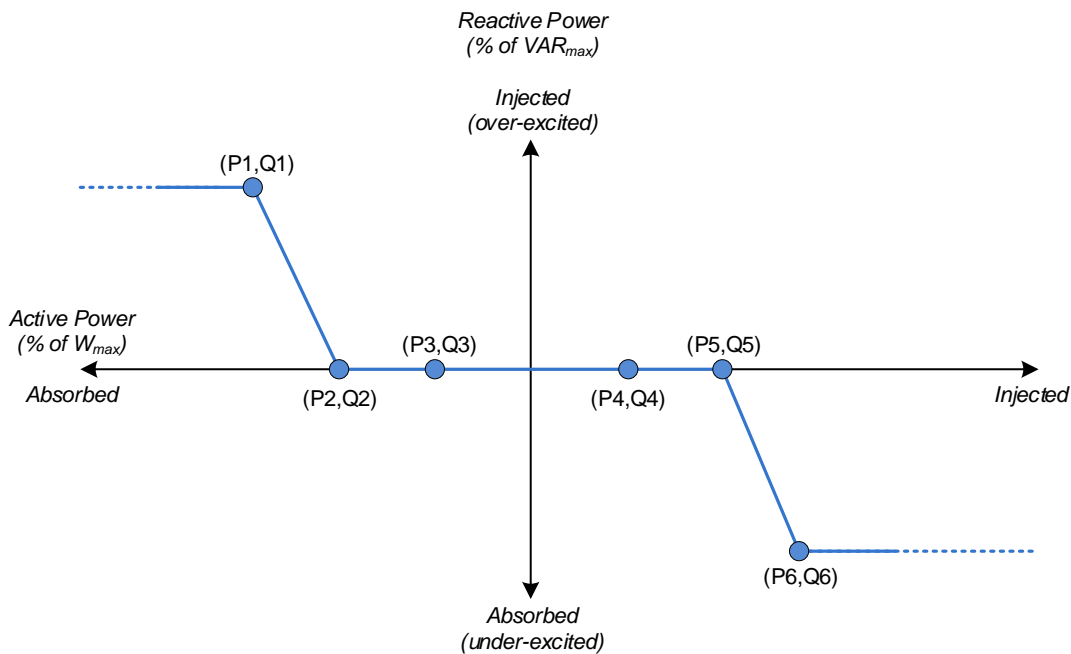

Figure 24 - Watt/VAR Configuration
Figure 24 illustrates a basic Watt-VAR curve. At the endpoints, to the left of the first active power point and to the right of the last active power point, the reactive power level remains constant (i.e. flat lines). The active power points (P) are defined as a percentage of the maximum active power ( $W_{max}$ , **REG 40266**). By default, the reactive power points (Q) are defined as a percentage of the maximum reactive power ( $VAR_{max}$ , **REG 40272**). However, the scaling can be changed to be a percentage of the maximum active power ( $W_{max}$ , **REG 40266**) or the maximum apparent power ( $VA_{max}$ , **REG 40271**) using the *VAR Dependent Reference* register in the Watt-VAR curve settings. When the Watt-VAR curve is enabled (**REG 41630**), the PCS’s active power output is used to determine the reactive power output specified by this curve. When the result is a non-zero reactive power command, the **Watt-VAR Active** warning bit will be asserted in **REG 41756 – PCS Warnings**.